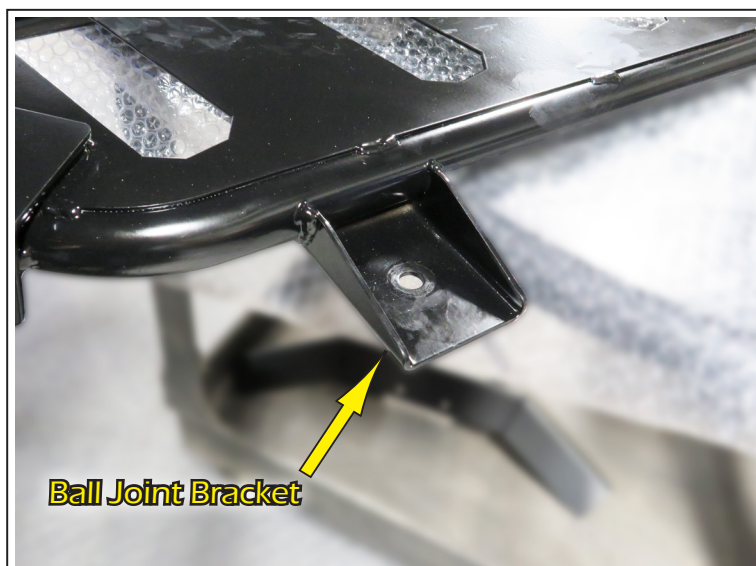
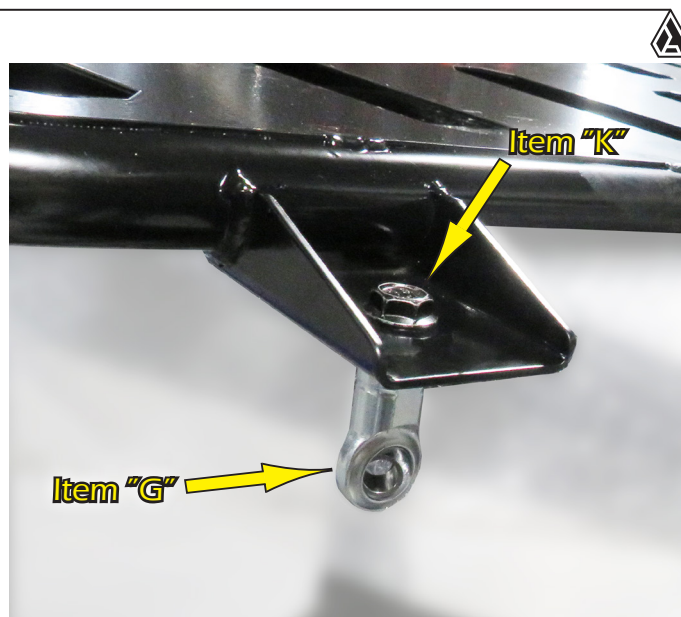

FIG. 16A
FIG. 16B
16. On each side of the Rack towards the front, you will see a bracket close to the corner that you will install a **Ball Joint** to for the **Gas Strut** to connect to. See **Fig. 16a**. You will install it onto the bracket using Ball Joint **Item "G"** an M10x20 Hex Flange Bolt **Item "K"**, and secure. See **Fig. 16b**.